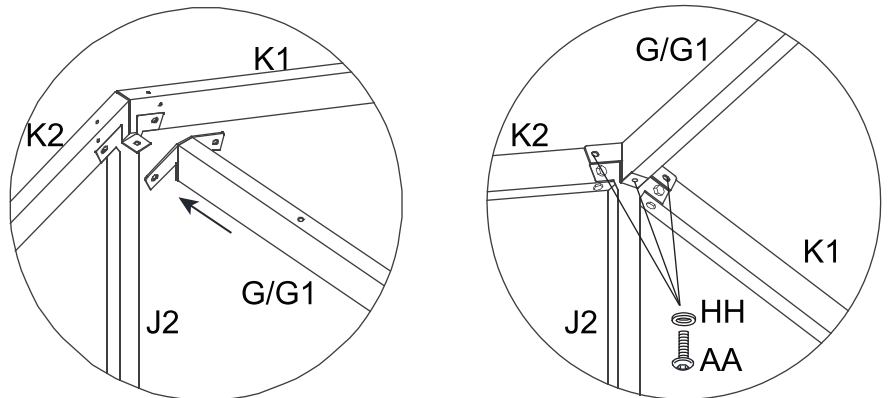

Figure 8.3
8.3 Connect the Middle Support bar (G/G1) with the Bilateral Cant Beam (K1/K2), fix them with Bolts (AA) and Washers (HH). See Figure 8.3.